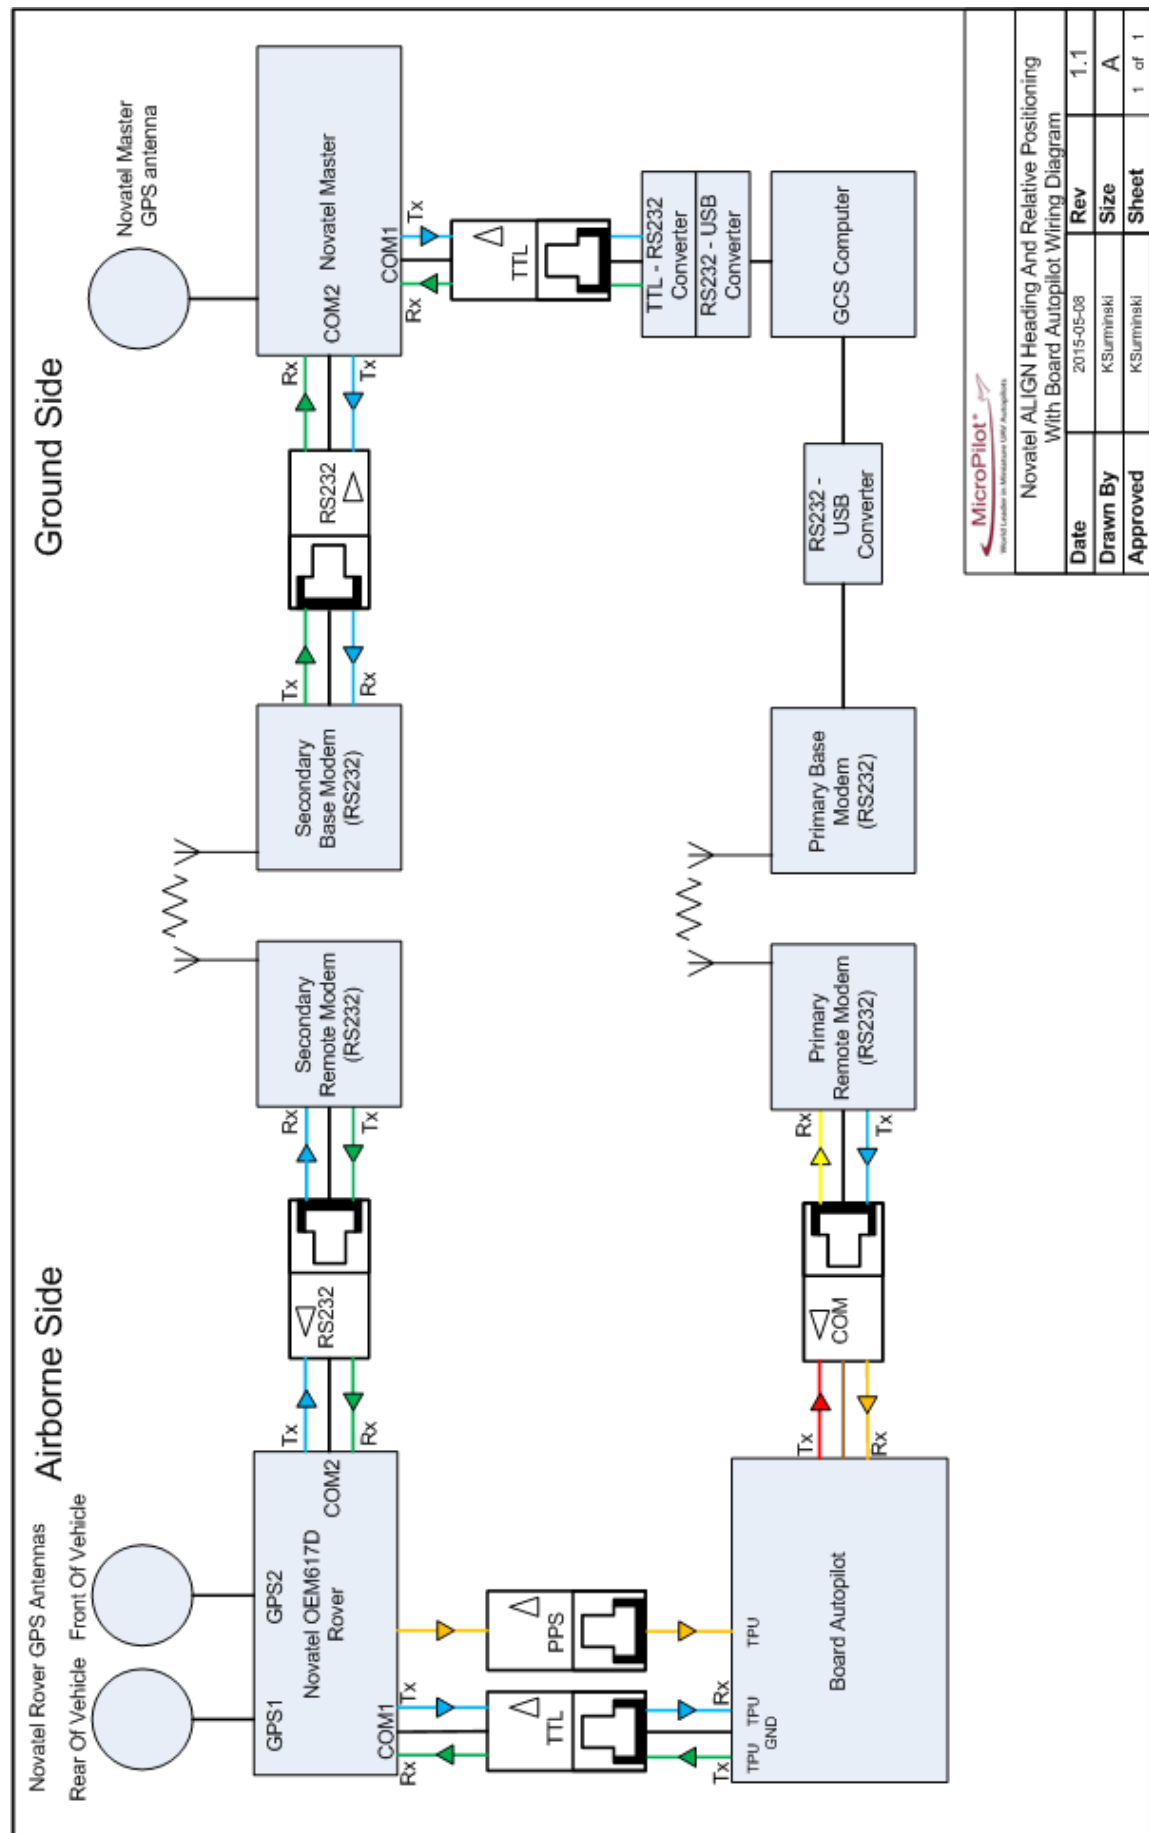

Figure 25 - NovAtel ALIGN Heading and Relative Positioning with Board Autopilot Wiring Diagram
- See Figure 25 - NovAtel ALIGN Heading and Relative Positioning with Board Autopilot Wiring Diagram.